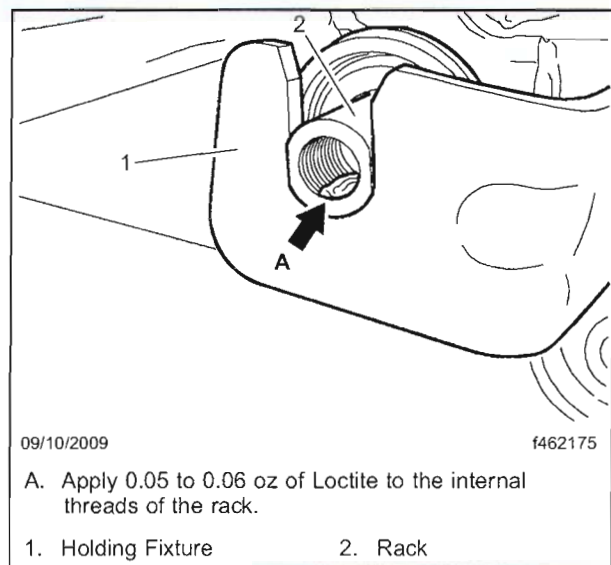

Fig. 5, Loctite Application
18. Slowly apply 0.05 to 0.06 oz (1.5 to 2 mL) of Loctite 603 Retaining Compound to the internal threads in the rack. See **Fig. 5**. Wipe off any excess Loctite that drips from the threads.